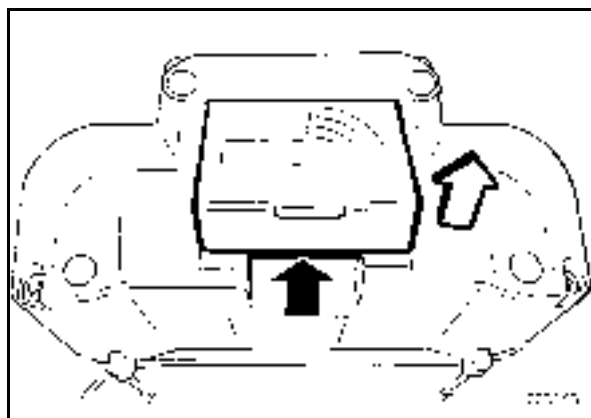

Fig. 76
- Press the power pack forward and lift it out of the housing (Fig. 76).